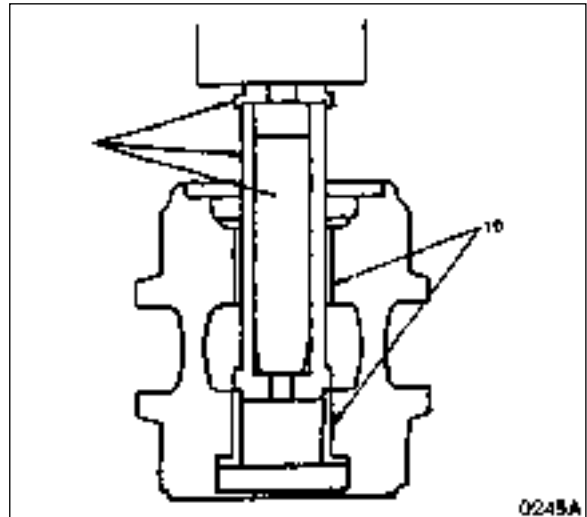

Figure 46
5. Separate the bushing (10, Figure 46) from the roller with a press and special tool (ST-1919).